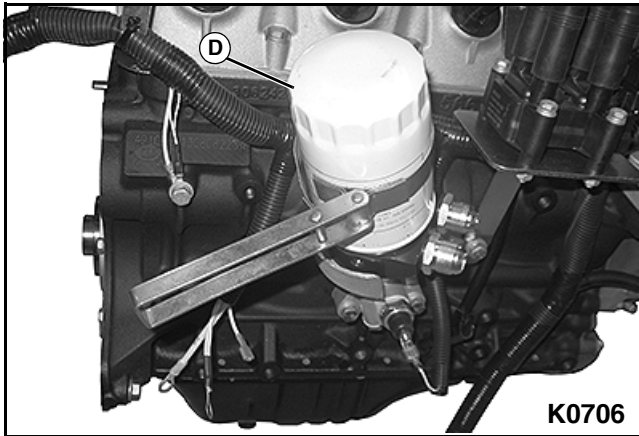

Figure 5-5
- Using an oil filter wrench, remove the old oil filter (D). **See Figure 5-5.**